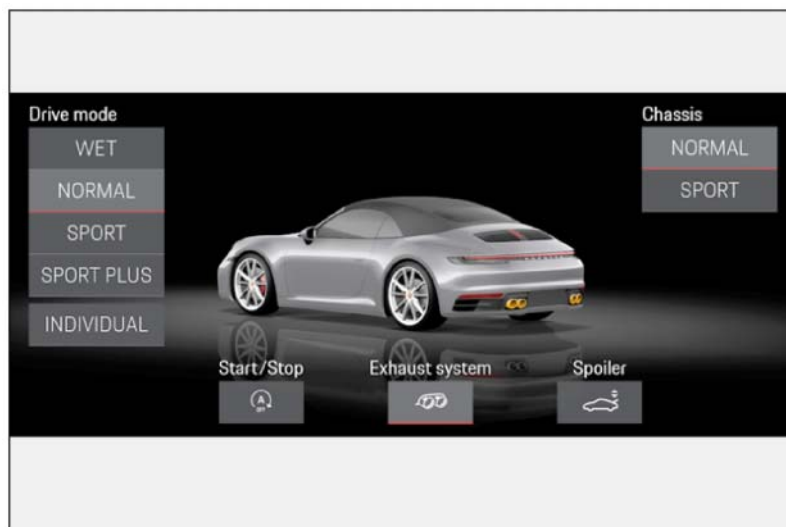

Figure 1
- Porsche Communication Management (⇒ *Figure 1*): Select the menu "Car" → "Drive" → "Exhaust system"
- Porsche Communication Management (⇒ *Figure 1*): Select "SPORT" or "SPORT PLUS"